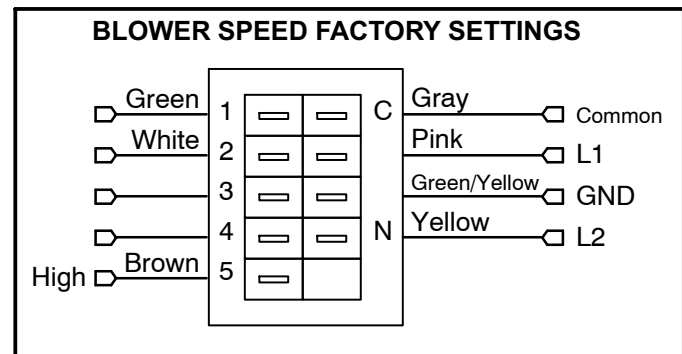

FIGURE 7
- 3- Use figure 7 to determine the factory-set blower speed.
- 4- Use direct drive blower tables, the measured static pressure and the factory-set blower speed to determine CFM. If CFM is lower or higher than the design specified CFM, move the leads as shown in figure 7.